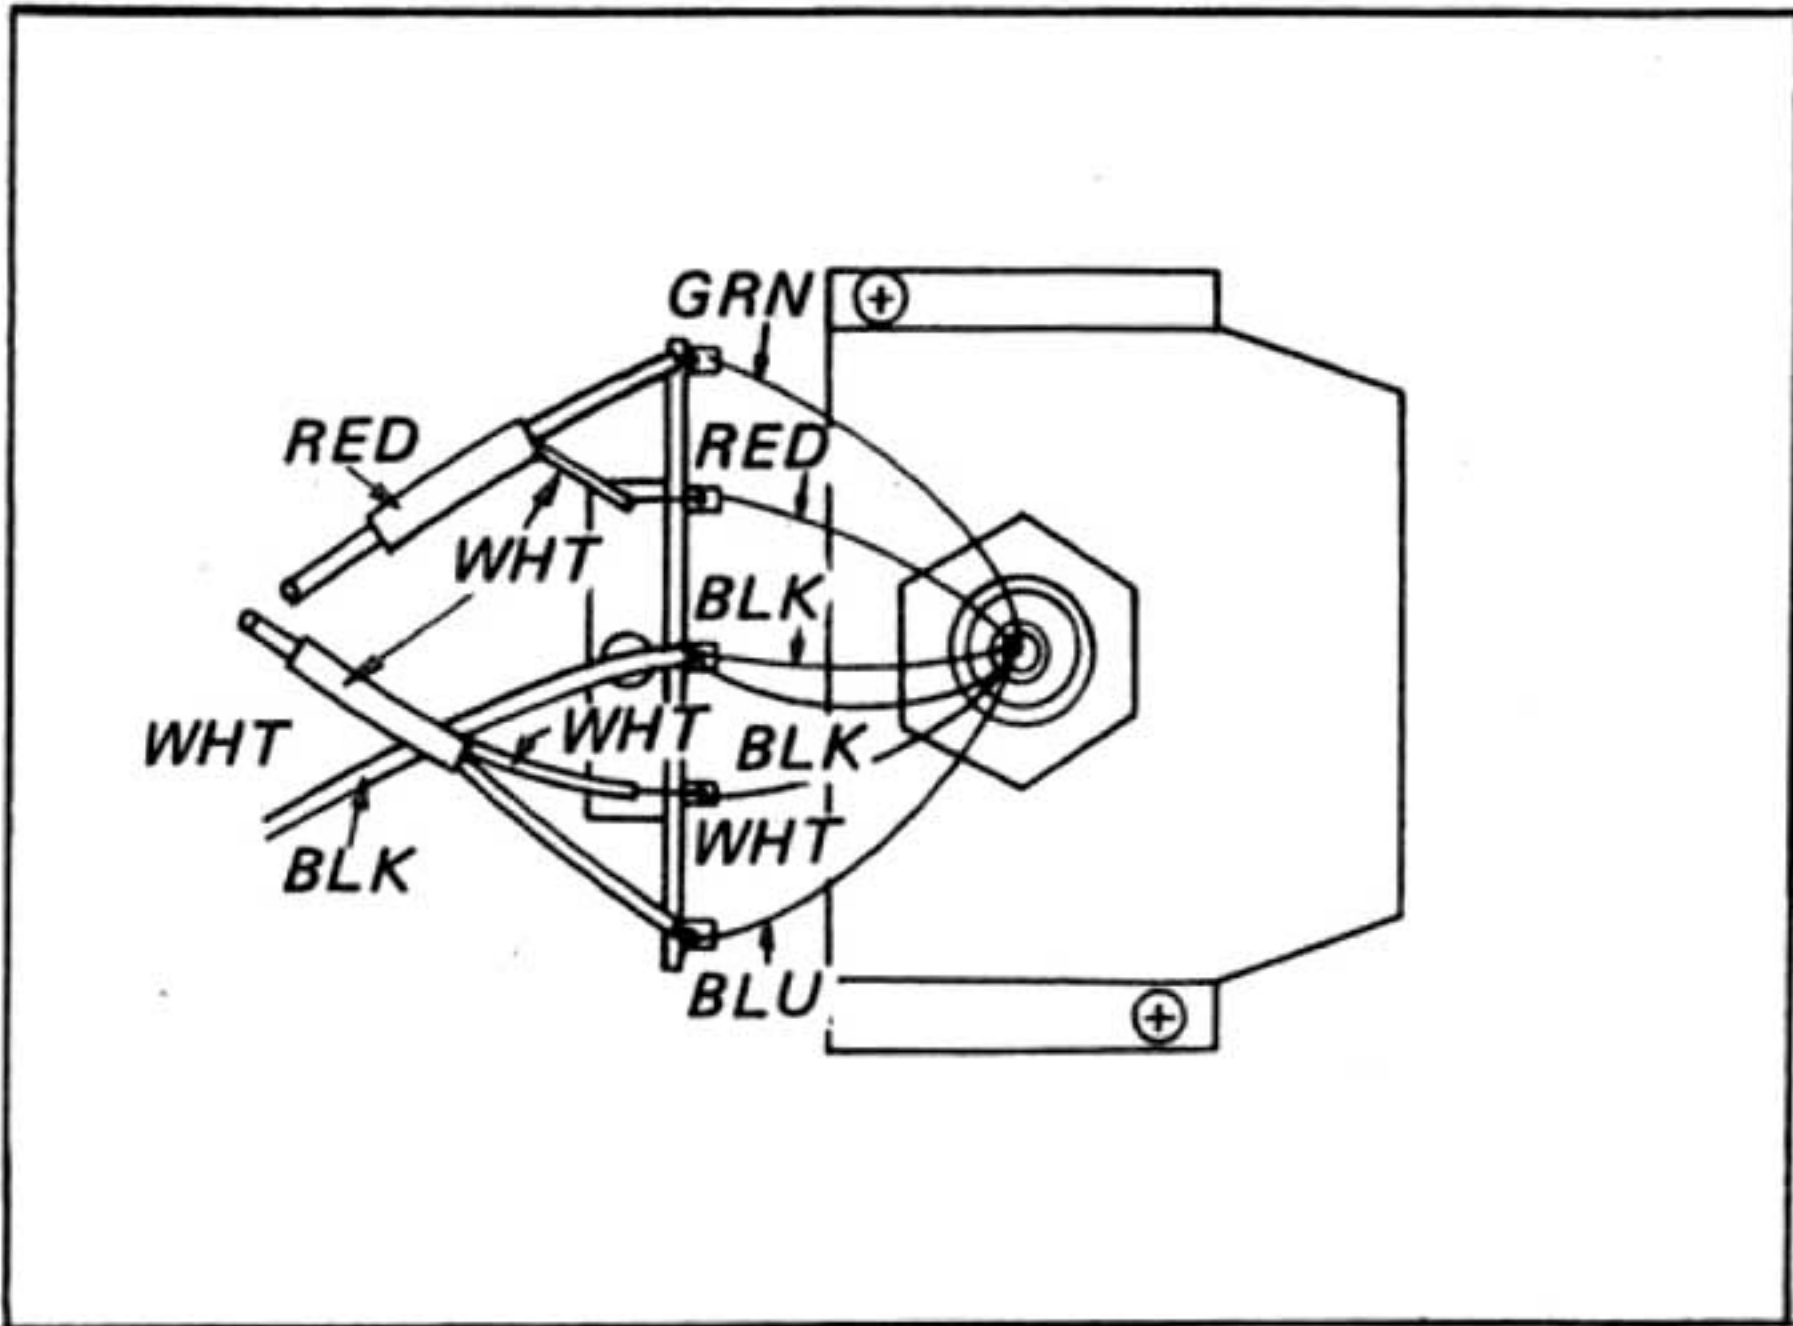

Fig. 2-13. Lead wire connection
- 4. Unsolder the leads from the terminal beneath the turntable base (See Fig. 2-13).